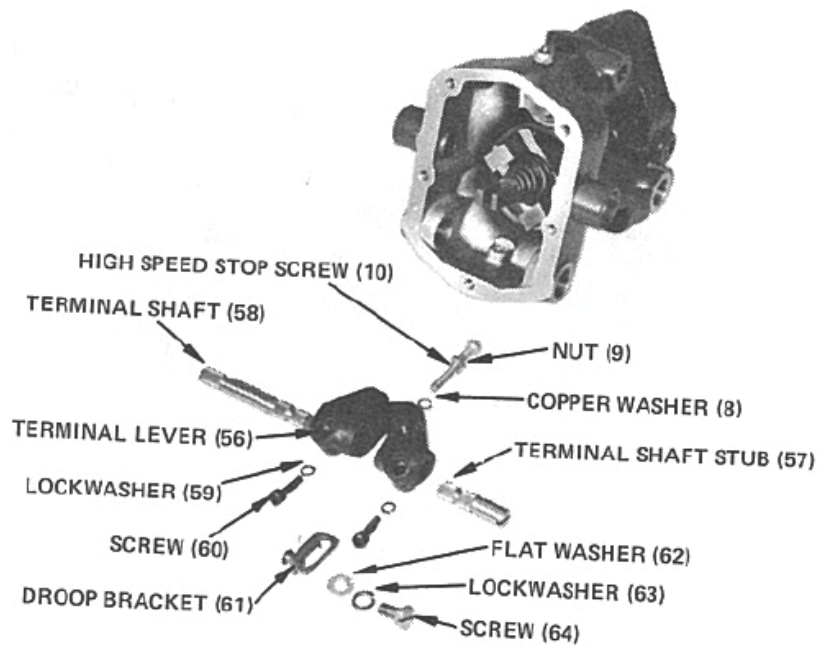

Figure 3-25. Terminal Lever & Terminal Shaft Parts Layout
20. Assemble speed droop bracket, terminal lever, and terminal shafts into case. See Figures 3-25 and 3-26.